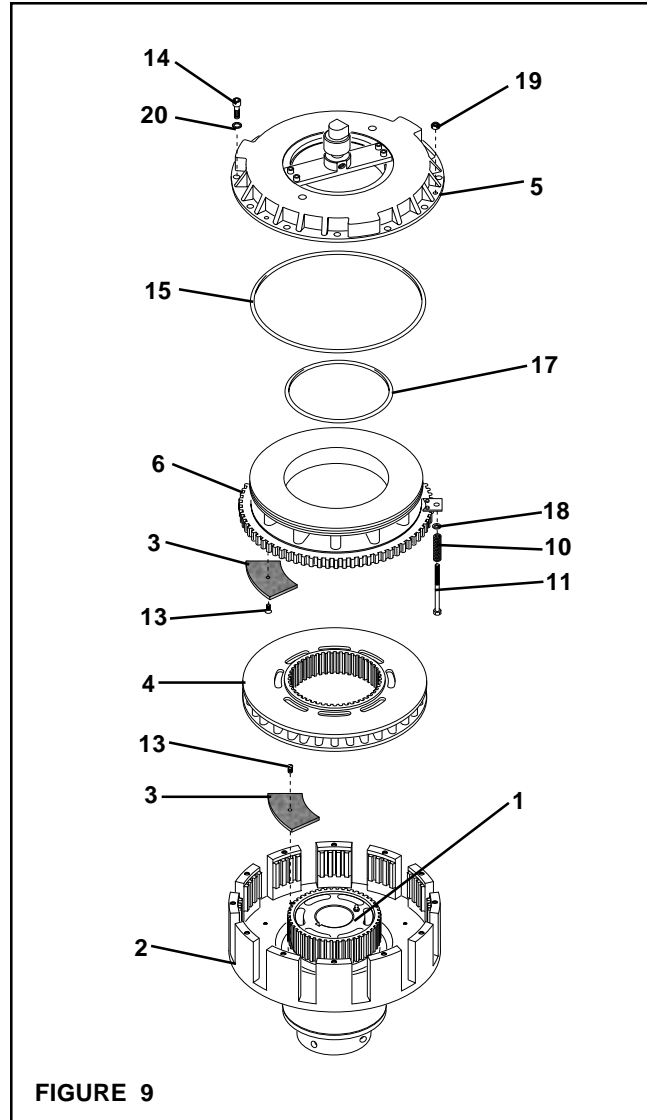

FIGURE 9
1. Remove the Hex. Head Torque Nuts (Item 19) (See Figure 9).
2. Remove the twelve Socket Head Cap Screws (Item 14) and Lock Washers (Item 20) (See Figure 9).
3. Remove the Cylinder (Item 5) (See Figure 9).
Applying low air pressure aids in the separation of the Cylinder (Item 5) from the Piston/Pressure Plate (Item 6) (See Figure 9).
4. Slide the Piston/Pressure Plate (Item 6) out of the Pilot Housing (Item 2) (See Figure 9).
5. Slide the Drive Disc (Item 4) off the Hub (Item 1) (See Figure 9).
6. Remove the old Flat Head Screws (Item 13) and the old Friction Facings (Item 3) from the Pilot Housing (Item 2) (See Figure 9).
7. Using new Flat Head Screws (Item 13), install the new Friction Facings (Item 3) (See Figure 9).
8. Tighten the new Flat Head Screws (Item 13) to 16 Ft. Lbs. [21.59 N•m] torque (See Figure 9).
9. Slide the Drive Disc (Item 4) back onto the Hub (Item 1) (See Figure 9).
10. Remove the old Flat Head Screws (Item 13) and the old Friction Facings (Item 3) from the Piston/Pressure Plate (Item 6) (See Figure 9).
11. Using new Flat Head Screws (Item 13), install the new Friction Facings (Item 3) (See Figure 9).
12. Tighten the new Flat Head Screws (Item 13) to 16 Ft. Lbs. [21.59 N•m] torque (See Figure 9).
13. Remove the old O-Ring Seal (Item 15) from the Piston/Pressure Plate (Item 6) (See Figure 9).
14. Coat the new O-Ring Seal (Item 15) with Parker® O-Ring lubricant and install the new O-Ring Seal on the Piston/Pressure Plate (Item 6) (See Figure 9).
15. Slide the Piston/Pressure Plate (Item 6) back into the Pilot Housing (Item 2) (See Figure 9).
16. Remove the old O-Ring Seal (Item 17) from the Cylinder (Item 5) (See Figure 9).
17. Coat the new O-Ring Seal (Item 17) with Parker® O-Ring lubricant and install the new O-Ring Seal on the Cylinder (Item 5) (See Figure 9).
18. Slide the Cylinder (Item 5) onto the Piston/Pressure Plate (Item 6) and Pilot Housing (Item 2) (See Figure 9).
19. Apply a drop of Loctite® 242 to the threads of the twelve Socket Head Cap Screws (Item 14) (See Figure 9).
20. Install the twelve Socket Head Cap Screws (Item 14) and Lock Washers (Item 20) (See Figure 9).
22. Install the Hex. Head Torque Nuts (Item 19) (See Figure 9).